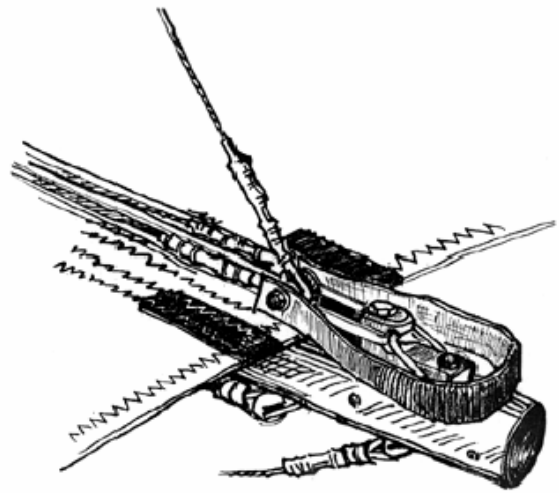

Fig. 18
2.2.12. Attach the shackle of the sweep wire to the hook, which is placed on the keel tube (Fig. 18).